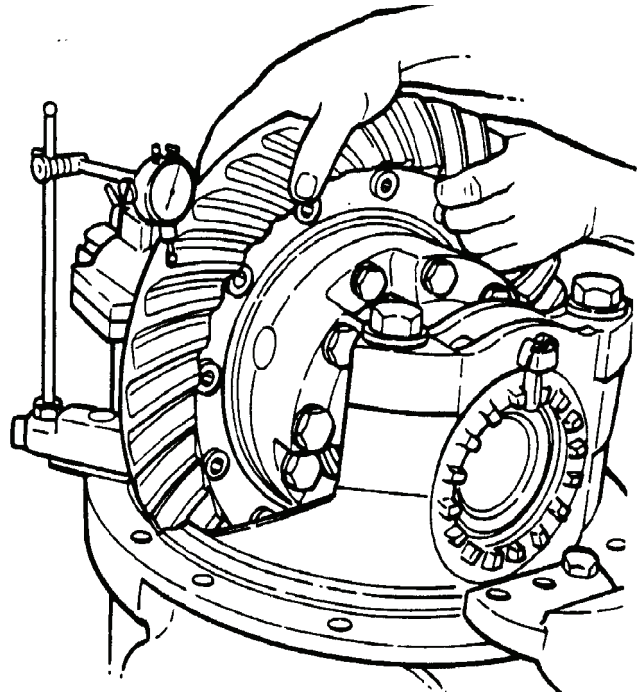

Figure 74.
- (1) Attach a dial indicator to carrier mounting flange. Position indicator plunger against a tooth surface (drive side) of ring gear.
- (2) While observing dial indicator, rotate ring gear slightly in both directions against pinion teeth. It may be desired to hold drive pinion stationary when rotating gear. Make a note of reading. Refer to Figure 74.
- (4) Slight inward movement if the hypoid gear may be necessary to maintain correct backlash .010" – .020".
- (5) Adjust ring gear backlash, within the specified range, to move the contact patterns to the correct location on the gear teeth.
- (6) Install the lock pins on the bearing caps so that the pins are between the lugs of the adjusting rings. See Figure 74.